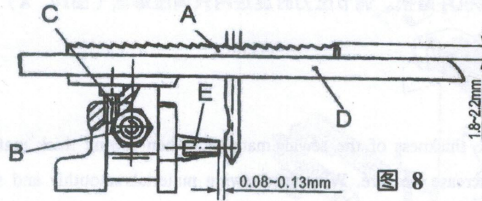

图 8
缝纫时由于袋边拼接处厚度不一致，往往会使机针刺在缝料厚薄交界处而弯曲或发生故障，而机针挡块（图5，E）则可起到保护作用。两者的间隙为0.08~0.13毫米（0.003至0.005英寸），（图8所示）。调整时将皮带轮按工作方向转动，使机针挡块靠近机针，拧松牙架上（图5，F）紧定螺钉（G），移动机针挡块（E）至合适间隙后再拧紧螺钉（G）。
The needle will bend or break when abutting bags made of different thickness of sewing material. And the needle guard (E, Fig.5) will protect the needle. The clearance between the needle and the needle guard is 0.08-0.13mm (0.003 to 0.005 in.) (Fig.8). For adjustment, rotating pulley in the direction of operating, so that the needle guard moves against the needle. Loosen set screw (G) on feed dog holder (Fig.5), move the needle guard accordingly. Retighten screw (G).
根据缝料质量与厚度确定送料牙A(图8)的高度。
The height of the feed dog A(Fig.8)is determined by the quality and the thickness of the sewing materials. For closing thin material such as bags made of cloth and plastic,teeth surface should project 1.8mm above the throat plate D top surface, and for sacks about 2.2 mm above the throat plate. For setting, move the feed dog to the highest position, loosen nut B and adjust feed dog by raising or lowering it.Retighten screws B.